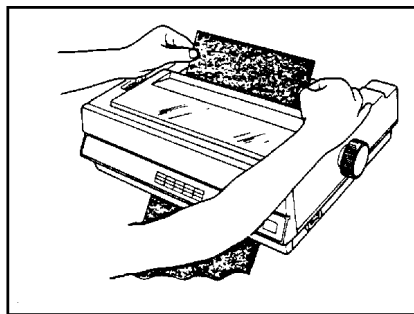

FIGURE 21 - FEEDING PAPER
3.8.3.6 Pull the paper until it reaches the tractor pins (Figure 21).